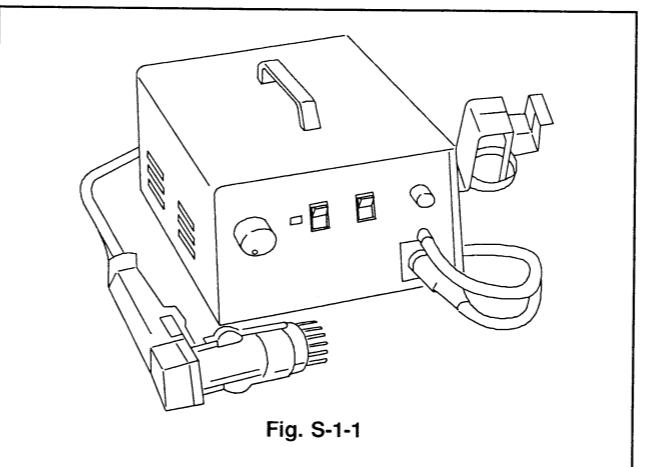

Fig. S-1-1
- (1) Prepare the hot-air flat pack-IC desoldering machine, then apply hot air to the flat pack-IC (about 5 to 6 seconds). (Fig. S-1-1)
- (2) Remove the flat pack-IC with tweezers while applying the hot air.